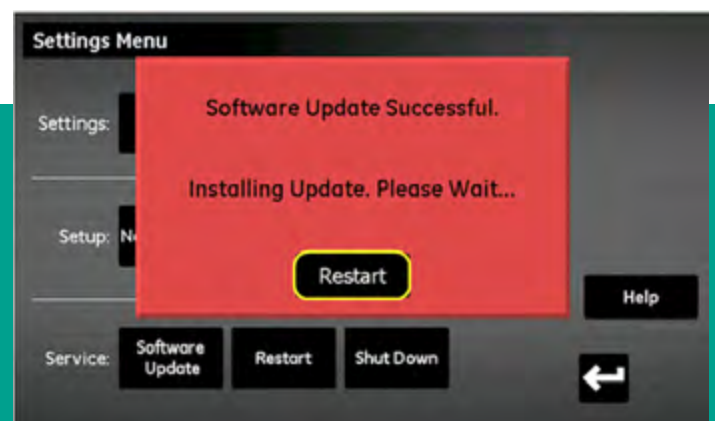

Figure 91: restart screen
2. Plug the USB flash drive (with the software update) into the moisture.IQ (see *figure 91* for rack/bench/panel mount, *figure 92* for weatherproof/explosion-proof.).